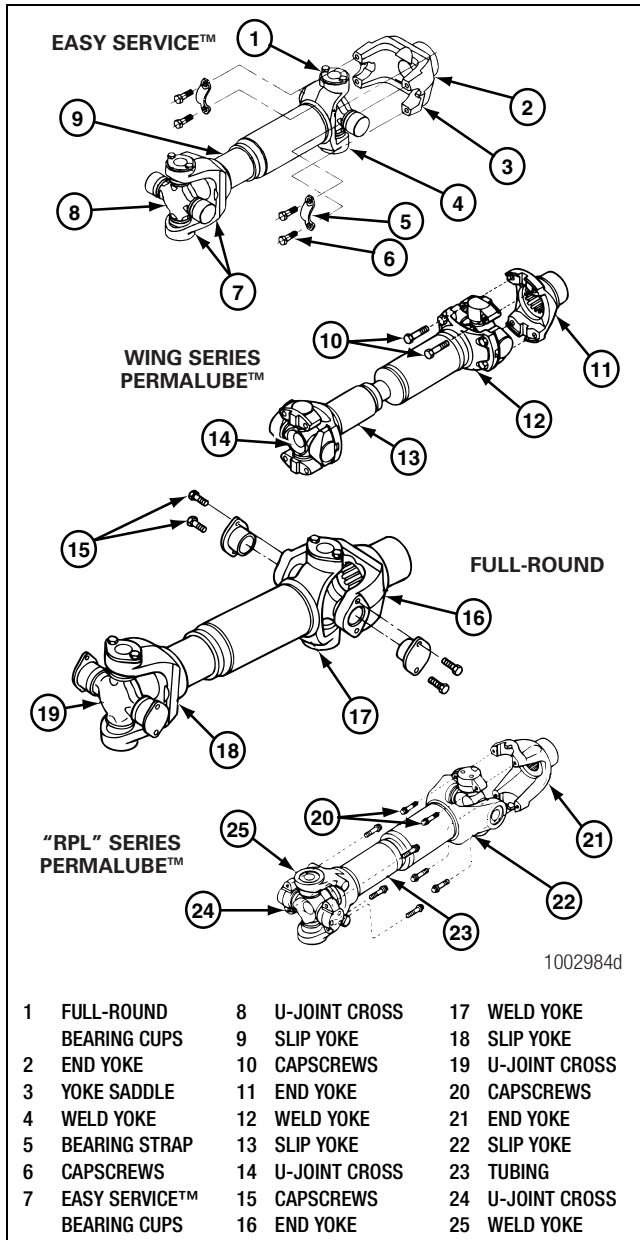

Figure 3.5
5. Disconnect the driveline universal joint from the pinion input yoke or flange on the carrier. Figure 3.5.